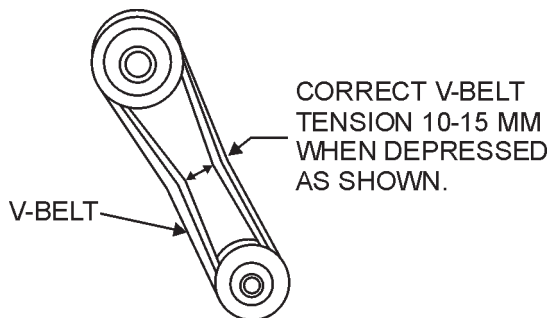

Figure 20. V-Belt Tension
2. The V-belt tension is proper if the V-belt bends 10 to 15 mm (Figure 20) when depressed with finger at midway between the clutch and vibration pulley shafts.